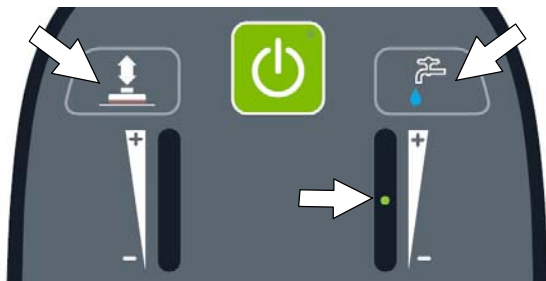

FIG. 157
6. To save the desired maximum limits, press and hold the brush pressure button and the solution flow button together until the LED turns solid, approximately 3 seconds (Figure 157).